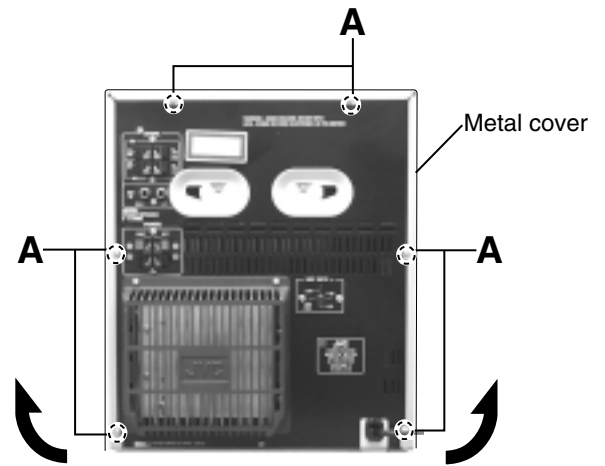

Fig.1
3. CD traverse unit is put up as shown in Fig.1.
## ■ Removing the metal cover (See Fig.1 to 3)